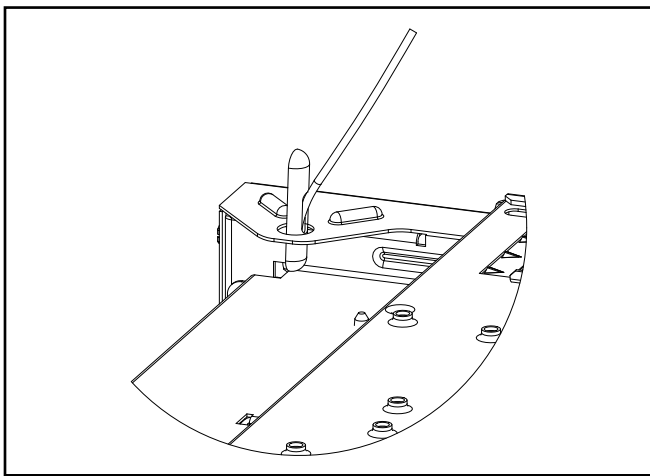

Figure 1. Cable/Y-Toggle Installation
2. Slip the toggle ends through the holes on the upper flanges of the end plate. (Figure 1.)